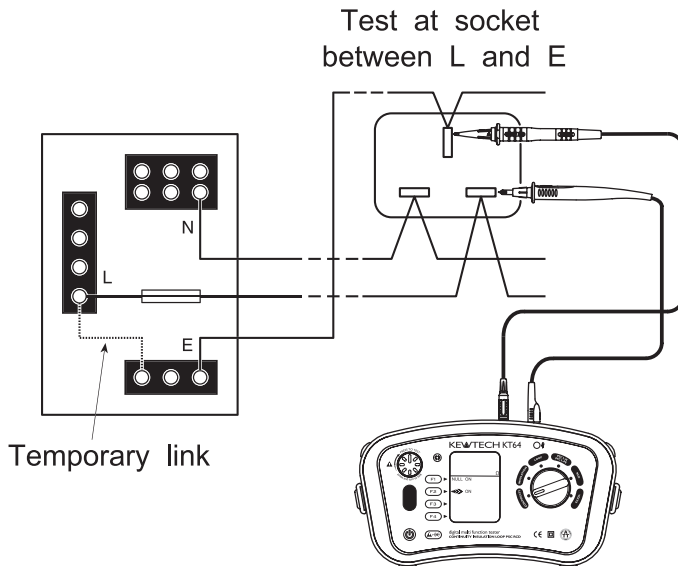

Fig. 11
- 6 Connect the test leads to the circuit whose resistance is required (see Fig.11 for a typical connection arrangement), having first made sure **that the circuit is not live**. Note that “Live Circuit” warning will be displayed on the LCD if the circuit is live - but check first anyway!